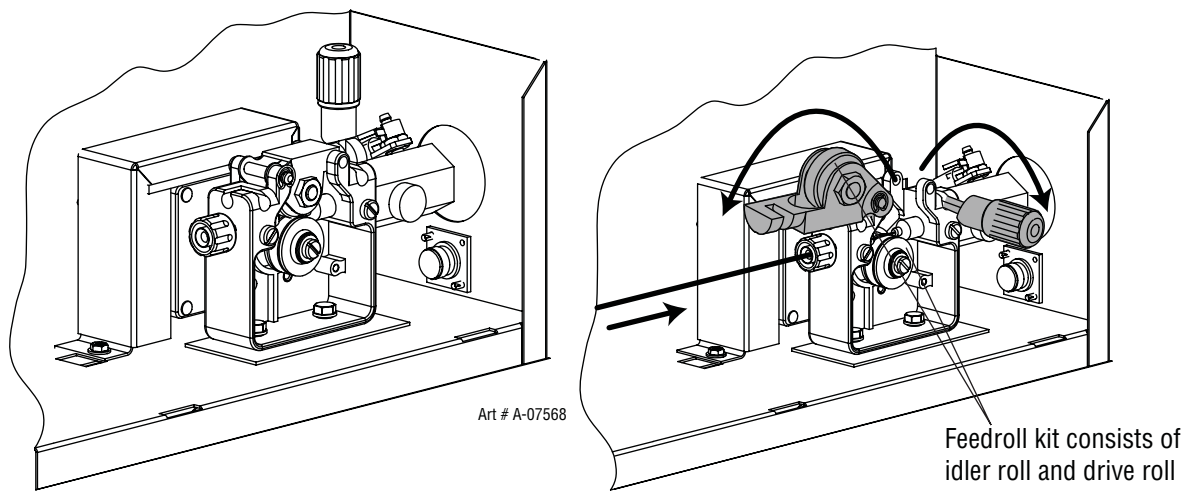

Figure 3-9: Opening Pressure Arm and Inserting Wire
2. Open Pressure Adjust Device (Fig. 3-9)
3. Open Pressure Arm (Fig. 3-9)
6. Close the Pressure Arm. (Fig. 3-9)
7. Close the Pressure Adjust Device. Tighten the Pressure Adjust Device knob to a “snug” condition. (Fig. 3-9)